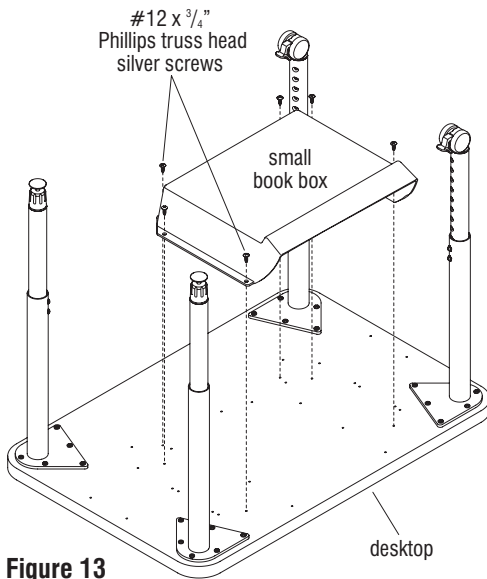

Figure 13
1. Position the book basket, small book box or large book box as illustrated onto the underside of the desktop. Align the mounting holes on the storage unit with the pre-drilled mounting holes in the desktop. Using **six or eight #12 x 3/4" Phillips truss head silver screws** (eight if mounting the book basket), secure the storage unit to the desktop. Do not over-tighten screws (Figures 13, 14 & 15).